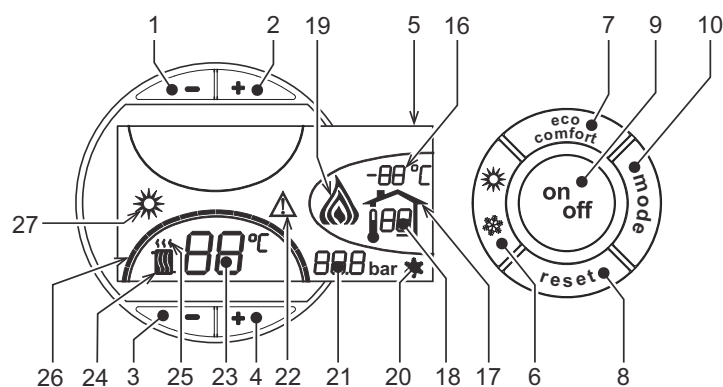
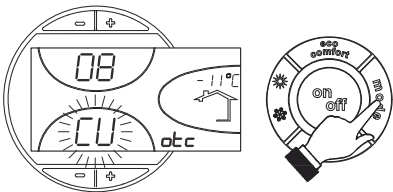
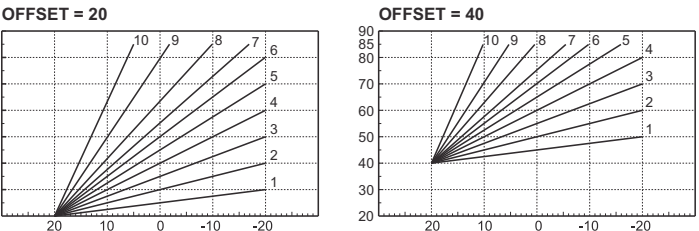

fig. 1 - Control panel
fig. 9 - Compensation curve
fig. 12 - Example of compensation parallel curve offset
Press the **on/off** button (detail 9 - fig. 1) for 1 second.
To relight the boiler, press the **on/off** button (detail 9 - fig. 1) again for 1 second.
- Press the ON/OFF button (9 - fig. 1)
Press the **summer/winter** button (detail 6 - fig. 1) for 1 second.
The display activates the Summer symbol (detail 27 - fig. 1): the boiler will only deliver domestic hot water. The antifreeze system remains activated.
To deactivate the Summer mode, press the **summer/winter** button (part. 6 - fig. 1) again for 1 second.
Use the **heating** buttons (details 3 and 4 - fig. 1) to adjust the temperature from a min. of 30°C to a max. of 80°C.
Use the DHW buttons +/- (details 1 and 2 - fig. 1) to adjust the temperature from a min. of 10°C to a max. of 65°C.
When the optional external probe is installed the control panel display (detail 5 - fig. 1) shows the actual outside temperature read by the probe. The boiler control system operates with "Sliding Temperature". In this mode, the temperature of the heating system is adjusted according the outside weather conditions, in order to ensure high comfort and energy saving throughout the year. In particular, as the outside temperature increases, the system delivery temperature is decreased according to a specific "compensation curve".
With Sliding Temperature adjustment, the temperature set with the heating buttons +/- (details 3 and 4 - fig. 1) becomes the maximum system delivery temperature. It is advisable to set a maximum value to allow system adjustment throughout its useful operating range.
Press the **mode** button (detail 10 - fig. 1) once to display the actual compensation curve (fig. 9), which can be modified with the **DHW** buttons (details 1 and 2 - fig. 1).
Press the **heating** buttons (details 3 and 4 - fig. 1) to access parallel curve offset (fig. 12), modifiable with the **DHW** buttons (details 1 and 2 - fig. 1).
Press the **mode** button (detail 10 - fig. 1) again to exit parallel curve adjustment mode.
If the Remote Timer Control (optional) is connected to the boiler, the above adjustments are managed according to that given in table 1. Also, the control panel display (detail 5 - fig. 1) shows the actual room temperature detected by the Remote Timer Control.
Eco/Comfort selection	On disabling DHW from the Remote Timer Control menu, the boiler selects the Economy mode. In this condition, the button 7 - fig. 1 on the boiler panel is disabled. On enabling DHW from the Remote Timer Control menu, the boiler selects the Comfort mode. In this condition it is possible select one of the two modes with the button 7 - fig. 1 on the boiler panel.